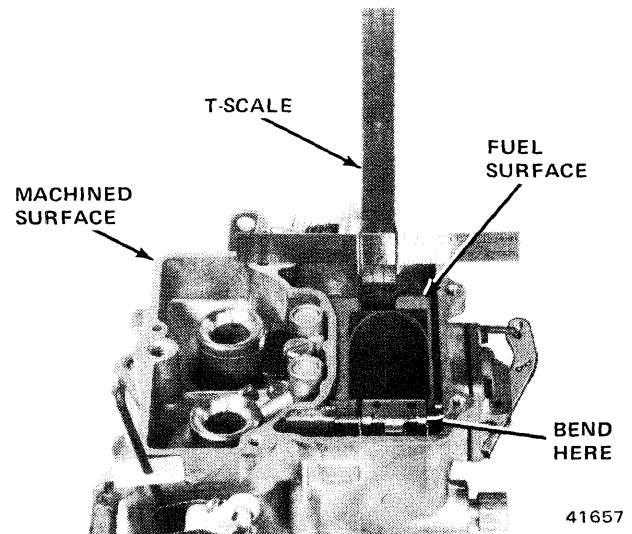

Fig. 4-106 Wet Float Level Adjustment
(1) With vehicle on a flat, level surface and engine at normal operating temperature, remove carburetor air cleaner assembly, and anchor screw.
(2) Remove air horn attaching screws and carburetor identification tag. Temporarily place air horn and gasket in position on carburetor main body and start engine. Let engine idle for a few minutes, then rotate air horn out of way and remove air horn gasket to provide access to the float assembly.
(3) While the engine is idling, use T-scale to measure vertical distance from top machined surface of carburetor main body to level of fuel in fuel bowl (fig. 4-106). Measurement should be made at least 1/4 inch away from any vertical surface to assure accurate reading, because surface of fuel is concave (higher at edges than in center). Care must be exercised to measure fuel level at point of contact between scale and fuel. Refer to Carburetor Service Specifications for correct fuel level (wet) setting.
(4) If any adjustment is required, stop engine to minimize hazard of fire due to fuel spray when float setting is disturbed. To adjust fuel level, bend float tab (contacting fuel inlet valve) upward in relation to origi-